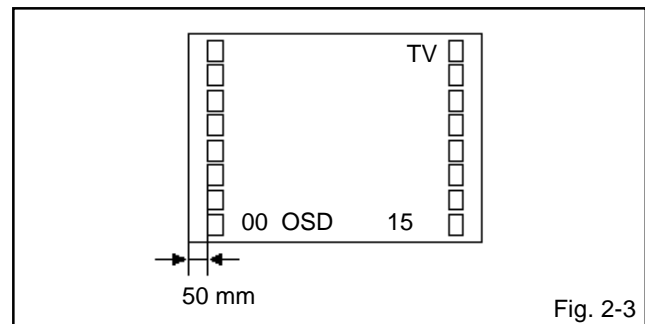

Fig. 2-3
3. Press the VOL. UP/DOWN button on the remote control until the value from the adjustment screen frame to the shadow mask becomes $50 \pm 5\text{mm}$. (Refer to **Fig. 2-3**)